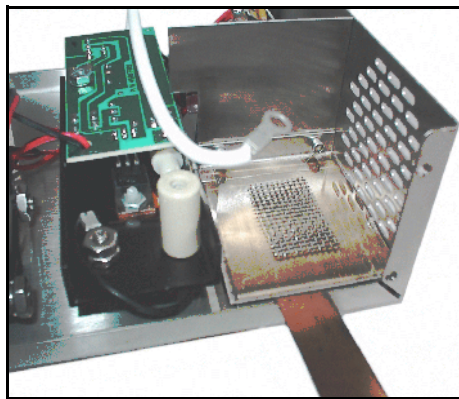

FIGURE 2
2. Locate and remove the screw from high voltage plate holding clip, then remove holding clip (SEE FIG. 2)
3. Use the edge of the holding clip to gently lift up and remove the stainless steel screen and mica (SEE FIG 2).